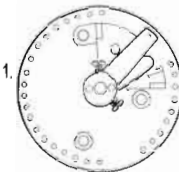

Fig. 2.
5. Rotate Contact Wiper Arm to Credit Position. (Fig 2).